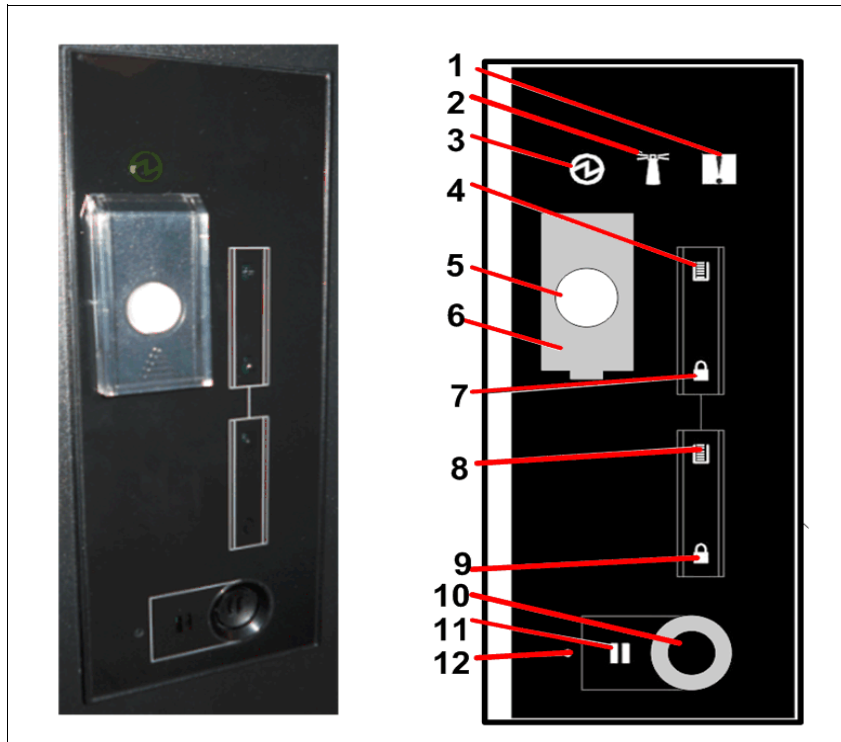

Figure 1-47 Display panel
The display panel on the base frame of the TS4500 tape library houses the library power and pause buttons. It displays library and I/O status indicators, as shown in Figure 1-47.
You pause the library by pressing the pause button on the display panel (number 10 in Figure 1-47 on page 53) on the base frame of your TS4500 tape library. This pause button causes the library to move the cartridge accessor to the base frame and pause operations for 30 seconds or while a frame door is open. The pause light next to the pause button stops flashing, and it illuminates solid to indicate that the library is paused (number 11 in Figure 1-47 on page 53).
1. From the display panel on the base frame of the library, slide the plastic cover that protects the power button up to make available the button (number 6 in Figure 1-47 on page 53).
2. Press the power button (number 5 in Figure 1-47 on page 53) and wait to see that the green power indicator turns on and stays on.
2. Pause the library by pressing the pause button on the display panel (number 10 in Figure 1-47 on page 53) on the base frame of your TS4500 tape library. This pause button causes the library to move the cartridge accessor to the base frame and pause operations for 30 seconds or while a frame door is open. The pause light next to the pause button stops flashing, and it illuminates solid to indicate that the library is paused (number 11 in Figure 1-47 on page 53).
3. From the display panel on the base frame of the library, slide the plastic cover that protects the power button up to make available the button (number 6 in Figure 1-47 on page 53).
4. Press the power button (number 5 in Figure 1-47 on page 53) and wait until the green power indicator light turns off.
Press the Access Recovery button (see Figure 1-47 on page 53) then, log in to the GUI by using `admin` for the user name and password.